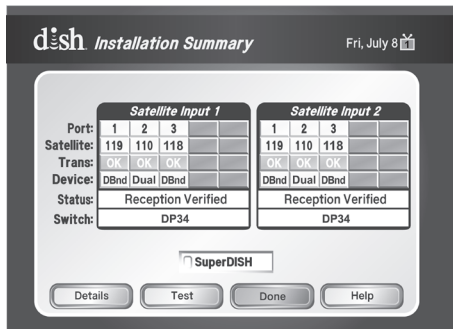

Figure 11. DISH 500+ Installation Summary
10. Follow instructions provided in the Installation Wizard or Run Check Switch. If the Receiver Setup Wizard appears, follow the instructions provided and continue with step 13; otherwise, from the **Point Dish** screen, run **Check Switch**. When the Check Switch procedure finishes, you should see an **Installation Summary** screen similar to the ones shown in Figures 11, 12, 13, or 14. Make sure the summary screen shows reception from the 110°W, 118.7°W, and 119°W (and 129°W for DISH 1000+) satellites on all available satellite tuners. The Installation Summary screen only displays if you have run Check Switch.